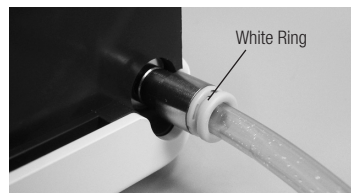

Fig.6
- Pushing the White Ring, (the Quick Connector Release Ring) on the Tap Water Connector, gently pull the tube to remove. (Fig. 6)